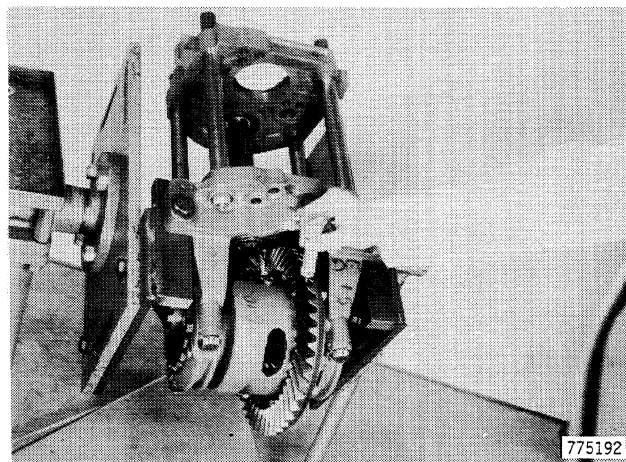

Figure 210
- 60. Apply oiled red lead or equivalent marking paste to several teeth of ring gear, Figure 210.